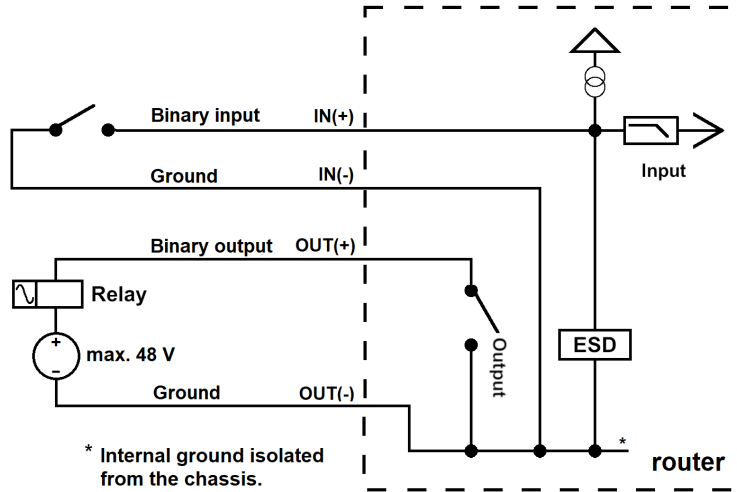

Figure 18: Functional Scheme of the Digital Interface
- i** The thread of the SMA connector for the WiFi antenna is connected to the internal ground, see Figure 18.
The power supply (common pole) is not connected to the metal case of the router nor to the internal ground, see Figure 18.
The I/O user interface is designed for digital input processing and digital output control. For detailed electrical parameters see Chapter 4.5. The functional scheme of connection for the digital input and digital output is in Figure 18.
The serial interfaces are not electrically isolated from the router. The ground is connected to the internal ground, see Figure 18.